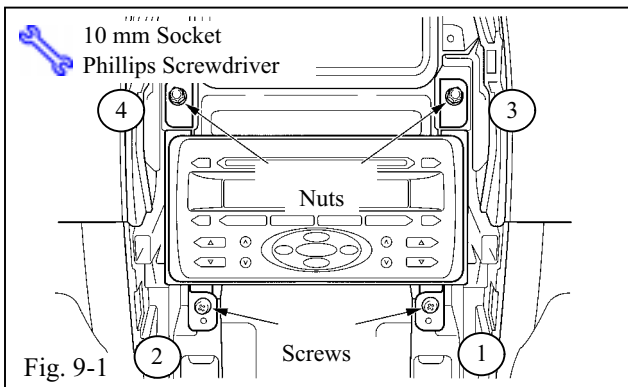

Fig. 9-1
(b) Insert head unit into opening and re-install the two (2) screws and two (2) nuts in order shown. (Fig. 9-1)